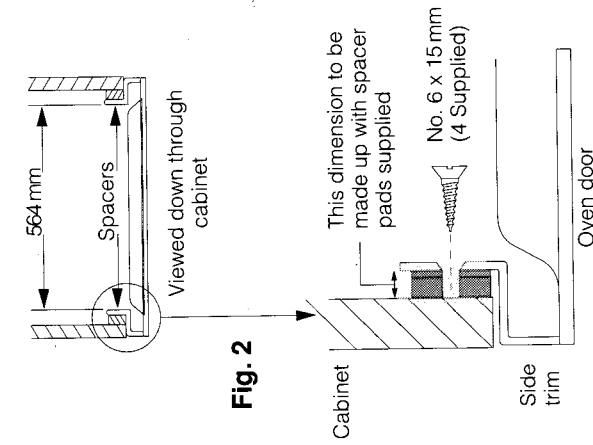

Fig. 2
- Affix the correct number of self adhesive spacer pads to the outside of the side trims over the fixing holes to make up to the actual cabinet aperture (see Fig. 2 page 6).